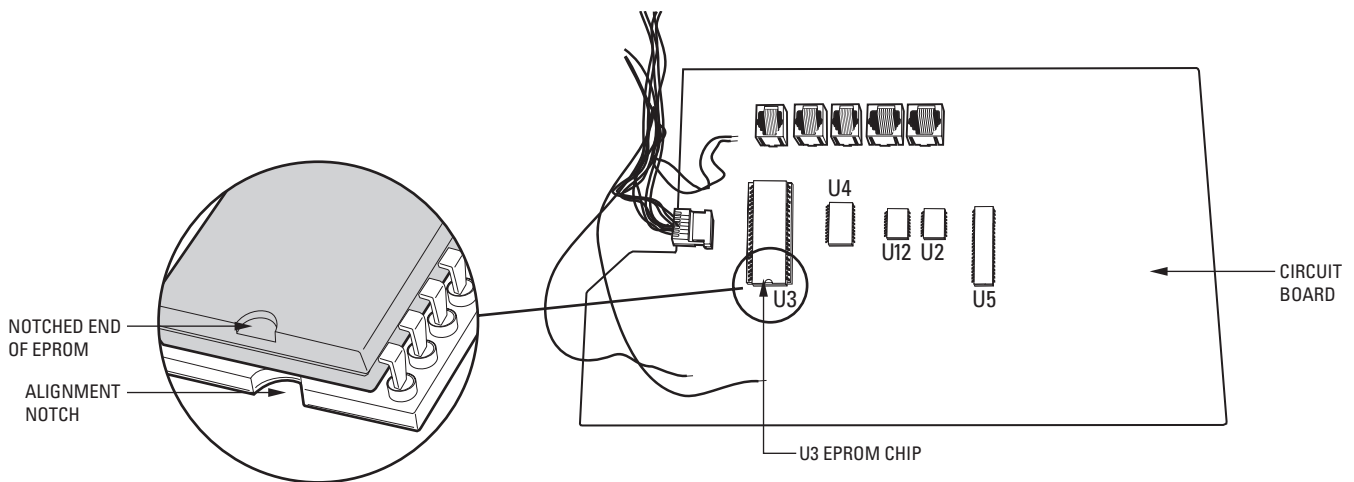

Figure 6. U3 EPROM Chip
7. Remove the existing U3 EPROM chip (refer to Figure 6) from its socket using the provided extraction tool. Remove the chip slowly to avoid damaging the socket.
9. As illustrated in Figure 6, orient the chip using the alignment notch as a guide. Verify pin-to-socket alignment, and then carefully press the chip into its socket until the chip is completely seated.